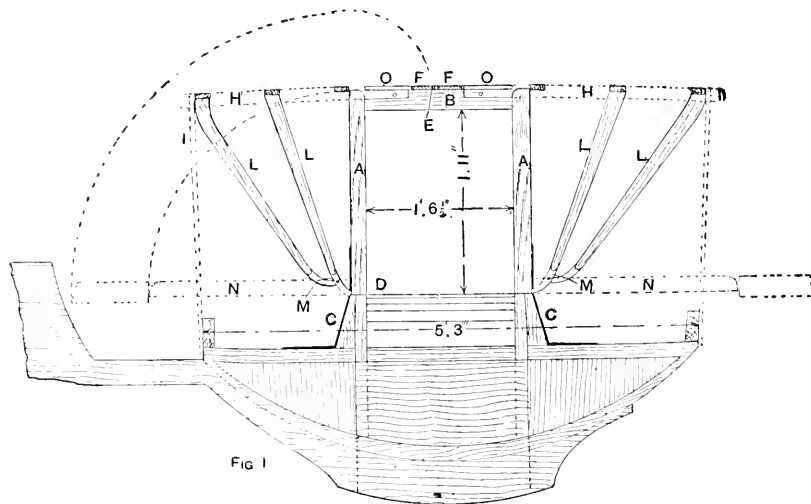
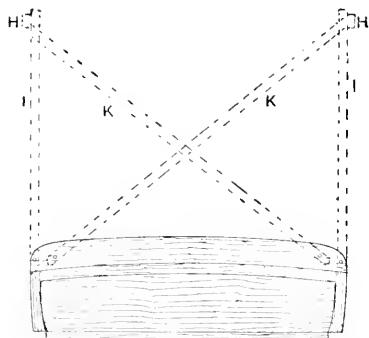
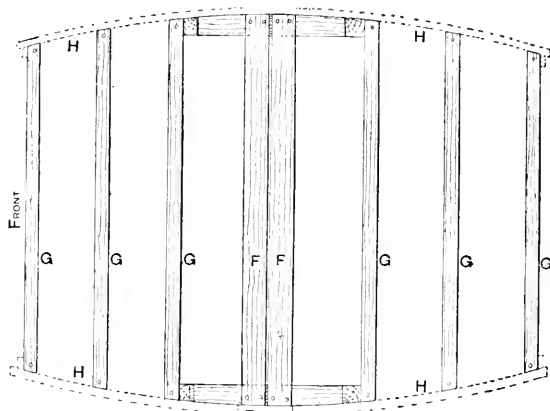
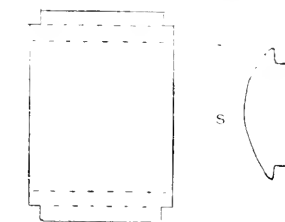

Fig. 1
Fig. 2
Fig. 3
FIG. 5
Making a Cheap Time and Instantaneous Shutter.—An inexpensive time and instantaneous shutter suitable for a magazine hand camera may be made of cardboard as follows. Cut a piece of stout pliable card—a good photographic mount answers well—to the pattern shown in Fig. 1. Next cut a piece like Fig. 2, and attach at A to the first piece on the underside with a stud or rivet U. Bend under, flat, the two pieces B and C (Fig. 1), and attach to the inner board, thus forming a support, and leaving a space for the shutter to work in. Now cut in thin metal a piece like Fig. 3, and bend on the dotted lines. Force the points B and E through the card at F and G (Fig.
2), and turn these and the flaps H and I down flat, thus holding it firm. Fasten a piece of fine black cord to H and I, and bring through the two opposite sides of framework, and fasten outside a button or bead. By this means the shutter may be pulled from side to side. Now fasten a rubber band by a slip-knot through K (Fig. 1), and put the other end of the loop over L. If the shutter is now pulled over by the right-hand button it will need only a slight pull of the left to cause it to spring across and give an instantaneous exposure. Time exposures may also be given.
Fitting the Head of a Landau.—The accompanying sketches show how the framework of a landau head is fitted up, and also a plan of the position of the hoop-sticks when fixed in place. First get out the top pillars A, A (Fig. 1), which are 2 in. thick by the width of the door pillar at the bottom or hinge end, tapering to 2½ in. wide at the top, and the cant rails B, 2½ in. deep, straight on the inside, to come flush with the pillars on the outside, sweeping out to the side sweep of the body; then cut the top part of the body standing pillar to a taper, to take the hinge C, so that it comes flush with the back of the pillar A, being careful to see that the face of the pillar A is kept level with the inner face of the door pillar at D, so that the glass frames will
for the body closing in; the cant rail is boxed out to line with the pillars, ¾ in. deep. Run the quirks on the outside, cut the joint in the cant rail E, and let in the dovetail catches on the top to keep it in place. To prevent it opening whilst fitting up the other parts, tightly fit a slip of wood in the glass course, fixing the two halves of the cant rail to it with screws. Having fixed on the pillars and cant rails for good, and having seen that they line with one another, fix on the two centre hoop-sticks F, F (Fig. 3), which are 3 in. wide by 1 in. thick, and are planed off at the ends so that they fit flat on top of the cant rail. The front one is kept over the joint in the cant rail until it lines with the male part of the dovetail catch, a clear space of ½ in. being left between the two hoop-sticks to allow room
for the cloth and lace trimming on the edge. To fit up the narrow hoop-sticks G (Fig. 3), it is necessary to fit around the top part a frame or scaffold, indicated by the dotted lines H (Figs. 1, 2, and 3); the top ones are 1½ in. deep by 1 in. thick, true to the side sweep of the body on the inside edge, fixed to the cant rail by a screw, in line with the top of the wide hoop-sticks already fixed. At the corners, strips I (Figs. 1 and 2) are screwed on at the top, being fixed to the back and front rails at the bottom (see Figs. 1 and 2), when the top line of the frame should have a drop of 1 in. from a straight line, and a sail out in length of 1 in. beyond the square line, both back and front. To keep the frame its proper width, two laths K, K (Fig. 2) are tacked across at the back and front, afterwards testing for correctness with a wax line. The slats L (Fig. 1) are now got out, the front and hind ones being slightly curved at the top, full 1 in. thick by the width of the hoop-sticks G (Fig. 3) at the top, tapering to nearly the width of the slat-iron M (Fig. 1) at the bottom; they are very slightly swept on the outside, and in fitting them up they have to rest against the framework at the top and on to the slat-iron at the bottom; this gives a twist to the two bearings, which is worked out a good bit
in rounding them up. At the top they are kept $\frac{1}{2}$ in. below the top edge of the frame, the hoop-stick making up, when let on, the remainder. The slat-sticks are rounded off at the bottom end about $\frac{1}{4}$ in. below the last screw-hole in the slat-iron, but should not be fixed for good until the whole is fitted up. In some cases it is necessary to fix on a small corner block behind each pillar, to carry the first narrow hoop-stick; in other cases a flap is left on the fitting, to which they are fixed. Having got them all in place, hold a long lath flat on the centre hoop-sticks, press down each end, and see that it bears fair on each stick; should it not do so, alter the fixing on the slat-iron either up or down, as may be required. After it is correct, tack on two strips of webbing from the centre hoop-sticks over the others on to the cross rails of the body, keeping it tight and tacking to each hoop-stick; take away the frame round the body, loosen the screws in the strips in the cant rail, lower the head to see that it works all right, when the pillars should be as shown at X (Fig. 1). If all is correct, put it back in its place, securely fix the slats to the irons, put on the filling-up pieces O (Fig. 1) on top of the cant rail level with the hoop-stick and lath with the end of the rail, this and the top corners of the hoop-sticks being canvassed about $\frac{7}{8}$ in. each way, and the bottom of the slat
join the three together with a binding strip over each joint, making the ends square. While this is drying join the three remaining cards in the same way, the wide one being in the centre. Then turn both parts over, adjust evenly, and join again, when the whole will appear as in Fig. 1, where the blacker line at b shows the binding strips in view, the joints B, C, E, F, having been joined on the other side. Next join the ends A, which is done by holding them over a flat ruler while sticking on the strip. These strips act as light-tight hinges, so that the whole will fold up flat, as shown in section partly closed in Fig. 2. The letters at the joints in Figs. 1 and 2 correspond, and make this quite clear. For the bottom, cut a piece of tin $\frac{1}{2}$ in. by $\frac{1}{2}$ in. and turn the edges up $\frac{1}{2}$ in. full all round, snipping out the corners. This will make a tray that will fit loosely inside. To make the top, cut a piece of tin to the shape shown in Fig. 3, bend at the broken lines and cut at the full lines, so that it appears as shown by Fig. 4. The edges projecting downward will be $\frac{3}{4}$ in. apart, to fit inside the lamp (see section, Fig. 4). The flanges bent up form light shades in one direction for the ventilation hole. A second piece of tin will shade in the other direction, and this must be cut as shown in Fig. 5, and bent along the dotted lines, and slightly curved as at S.
Railway Carriage Mouldings.—The accompanying figures show a few of the sections of mouldings commonly used in railway carriages, but very many others are employed, especially on saloon interiors. Fig. 1 shows a cornice round, Fig. 2 scotia, Fig. 3 coach bead, Fig. 4 ogee, Fig. 5 ovolo, Figs. 6 to 11 combinations of rounds, fillets, and hollows. The round
this corresponds to a circle 1 ft. 8 1/2 in. or, say, 1 ft. 9 in. diameter. If the firebrick be not carried up to the top, the common brickwork will need to be 4 1/2 in. thicker in each length. In Lancashire and the North of England generally the brickwork would be measured up and given as: a superficial yards common brickwork, 9 in. thick, the price being about 5s.; a superficial yards extra for circular work about 3 ft. radius, at about 1s. 4d.; a superficial yards (face measure) building to batter of 3 in. in 10 ft. at about 6d.; a superficial yards firebrick lining, half-brick thick, at about 4s. 6d.; a superficial yards extra for circular work about 2 ft. 4 1/2 in. radius, at about 2s.; a superficial yards (face measure) for building to batter of 3 in. in 10 ft., at about 4d.; a lineal feet building in stone basecourse, at about 1s.; a lineal feet neck mould, two courses deep, circular, at about 8d.; a lineal feet oversailing to chimney cap, sixteen courses deep, circular, at about 1s. 6d.; a lineal feet setting stone coping at about 1s. Fair prices for labour only would be for common brickwork, about 2s. 6d. per square yard, extra for circular about 8d.; per superficial yard of batter about 4d.; per superficial yard firebrick lining, about 1s. 6d.; per superficial yard extra for circular work, about 8d.; batter in firebrick lining, about 3d.; per lineal foot building in stone base, about 4d.; per lineal foot neck-mould, 1d.; oversailing sixteen courses deep, about 1s.; stone coping, 1d. In addition to these the master bricklayer should add sums for labour to cover hoisting, alteration of scaffold, etc. Fig. 1 shows half elevation. Fig. 2 half section. Fig. 3 plan at A B, Fig. 4 plan at C D, Fig. 5 vertical section of flue at G H, Fig. 6 plan at E F. In Fig. 6, letter I indicates the flue from the boilers.
for fixing together. The mortise shown by Figs. 1 and 2 is rather difficult to make, owing to it going obliquely through the wood. The joint shown by Figs. 3 and 4 would not be wedged, but fixed by gluing or pinning. Figs. 5 and 6 show a haunched joint which can be wedged.